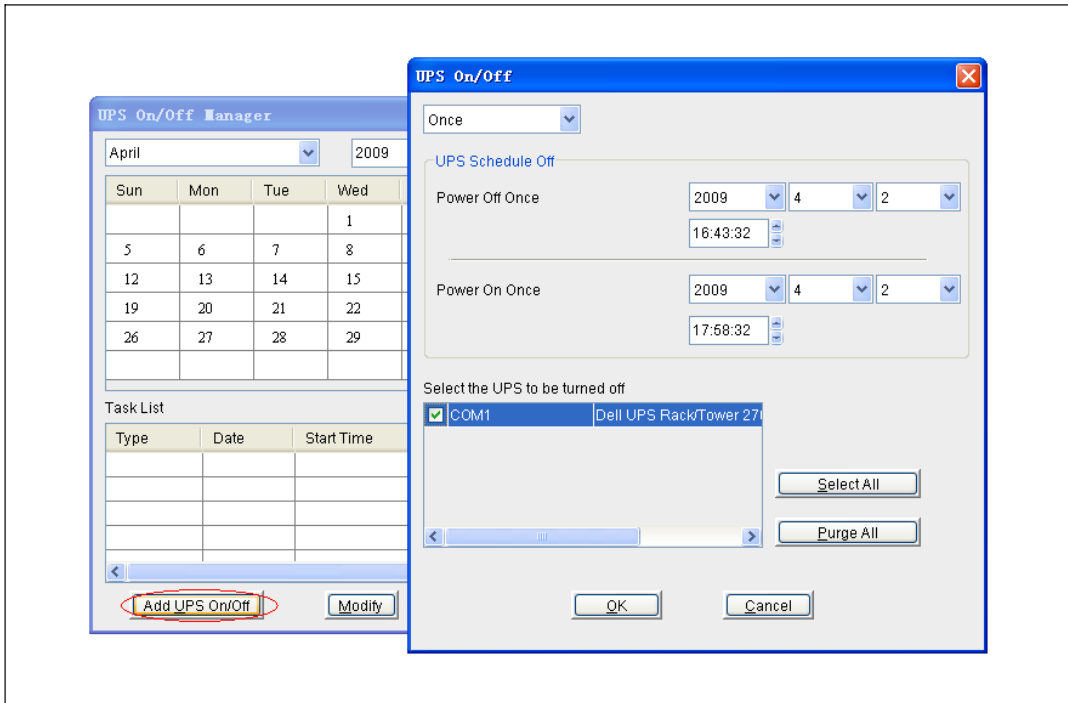

Figure 81. UPS On/Off Window
- 1 Click **Add UPS On/Off** to open the UPS On/Off window (see Figure 81).